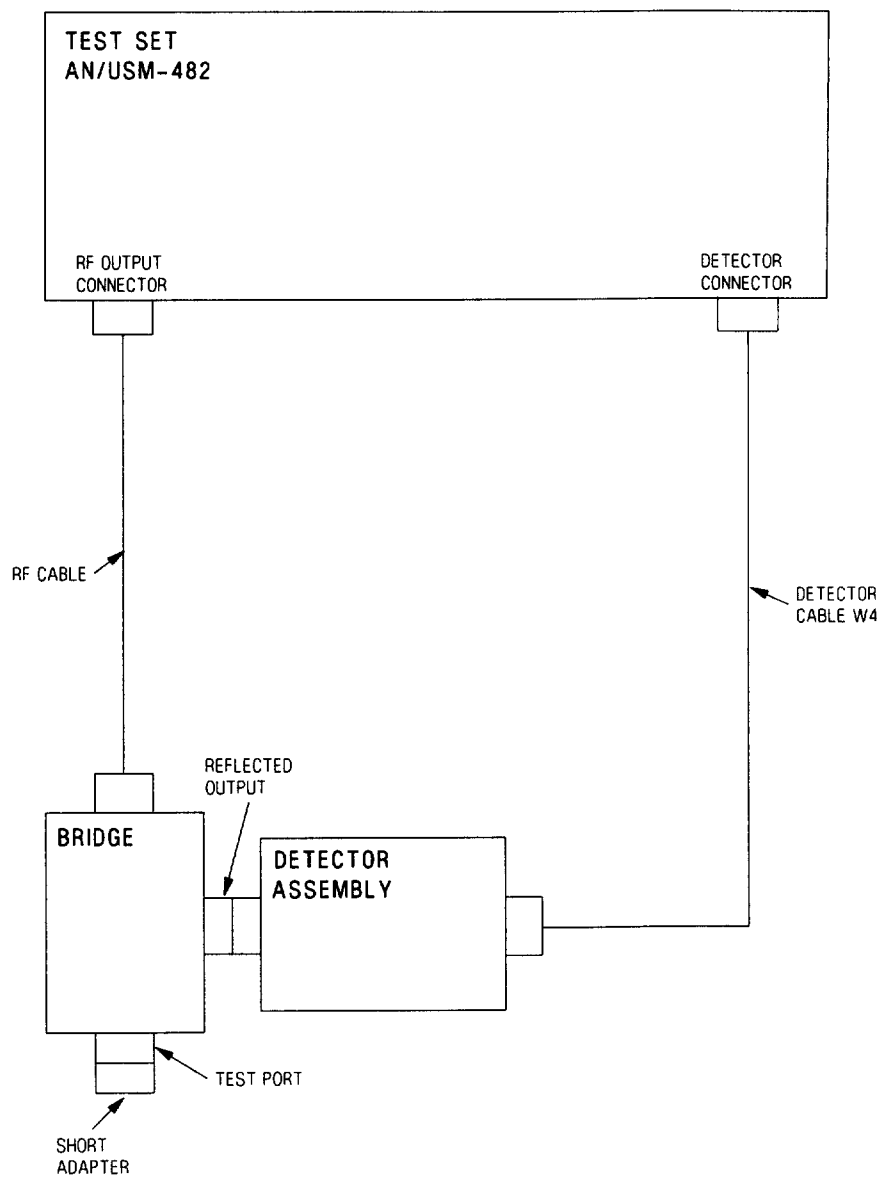

Figure 3. Return Loss Reference Hookup
b. Connect detector assembly to REFLECTED OUTPUT of bridge (figure 3).